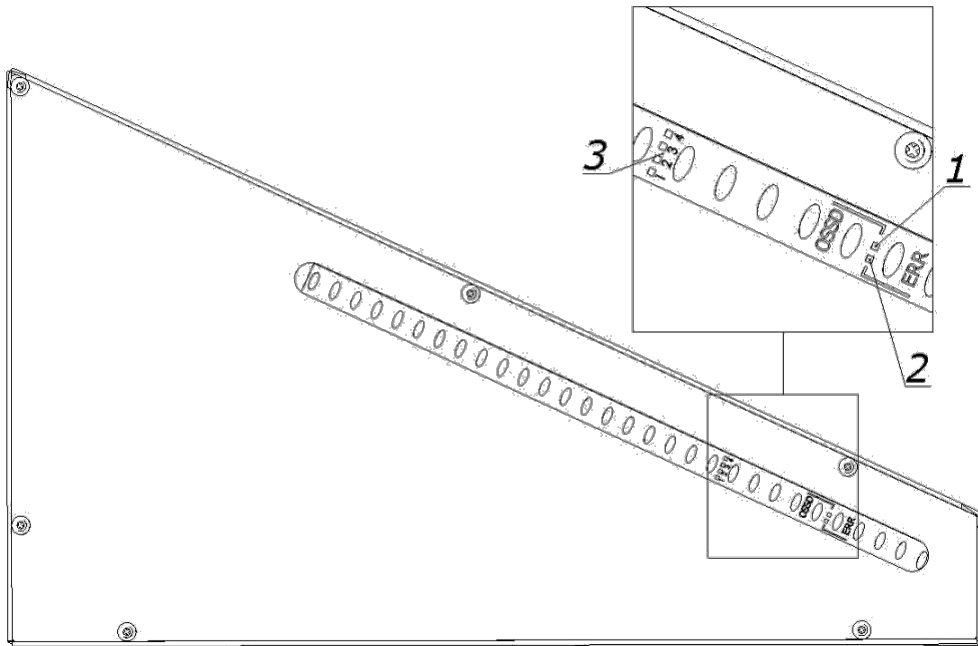
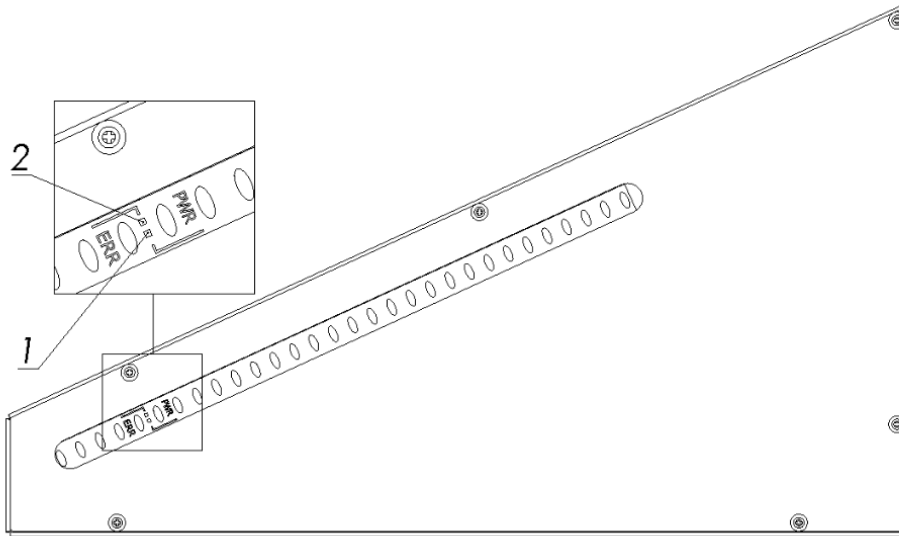
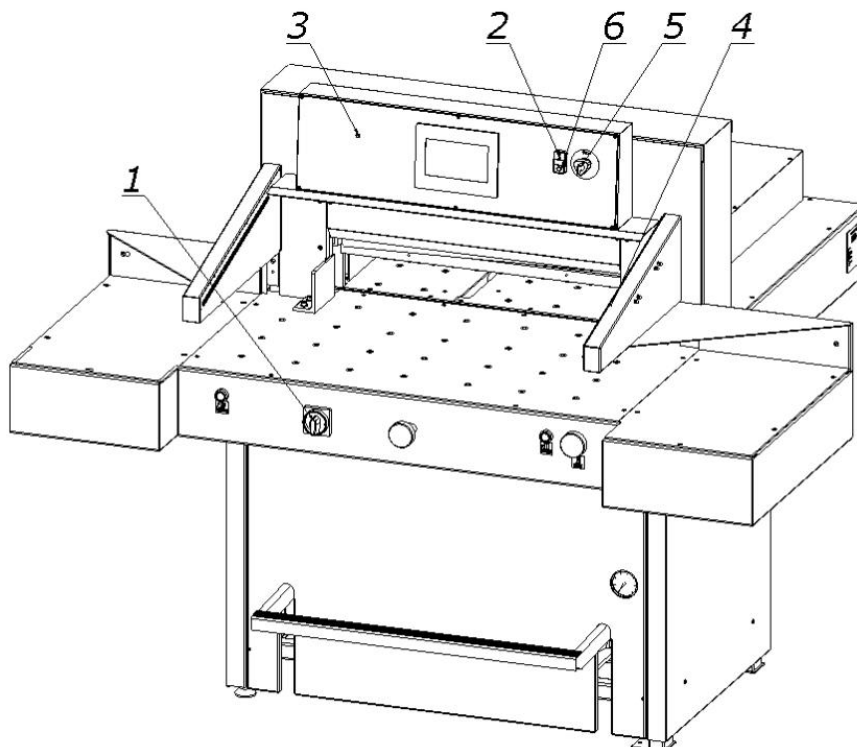
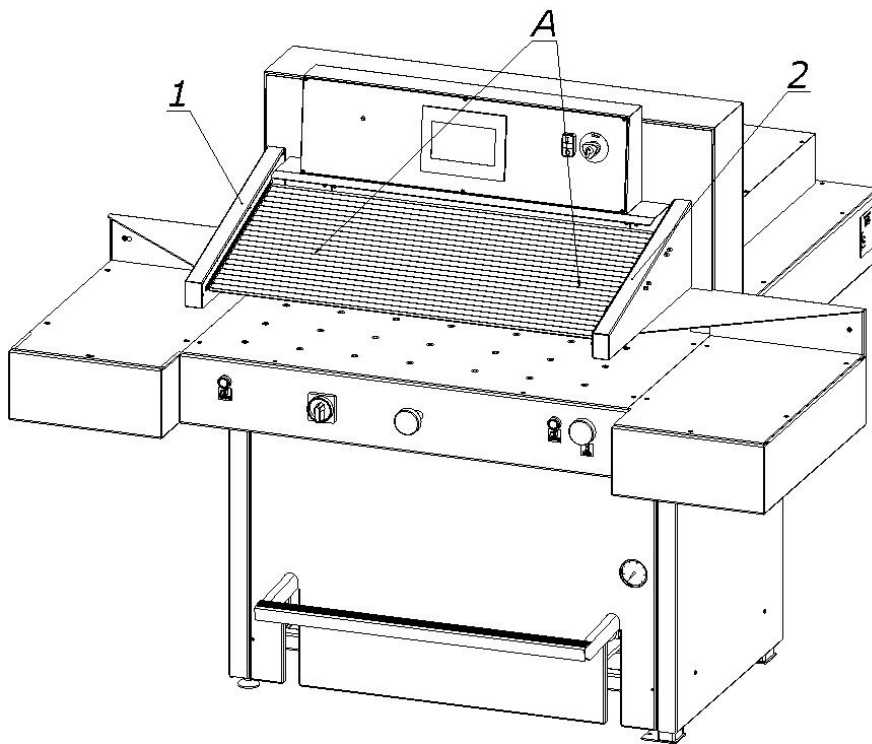

Figure 11 Receiver indicators
Figure 12 Transmitter Indicators
Figure 15 Arrangement of the elements used when switching the cutter.
Figure 16 Light curtain
1. Set the main switch 1 to "ON" 1 position (Fig. 15)
2. Press the green button 2 (Fig.15)
- the green OSSD 1 LED lights up (Fig.11) in the receiver 4 (Fig.15)
<p>INFO</p> <p>If after turning on the power supply with the main switch 1 (Fig. 15) and pressing the green button 2, the LED 3 is green, the connection is correct (correct direction of rotation), if the LED is red, the connection is not correct and should be replaced in the plug two of three phase conductors.</p>
When the cutter is switched on, the transmitter 1 and receiver 2 are initialized (fig. 16). All transmitter and receiver LEDs will light for a moment. After initialization the receiver indicates the quality of the setting using four blue LEDs 3 (Fig.11). (Table 9)
The setting indicator extinguishes after a suitable time when the safety light curtain is set (the LED of the device switching the output signal: green item 1 figure 11) and only the PWR LED of transmitter 1 (fig.12) and LED 1 (fig. 11) device for switching the receiver's output signal.
1. Press the button 5 (Fig.15)
1. Unlock button 5 (turn it around) (Fig.15)